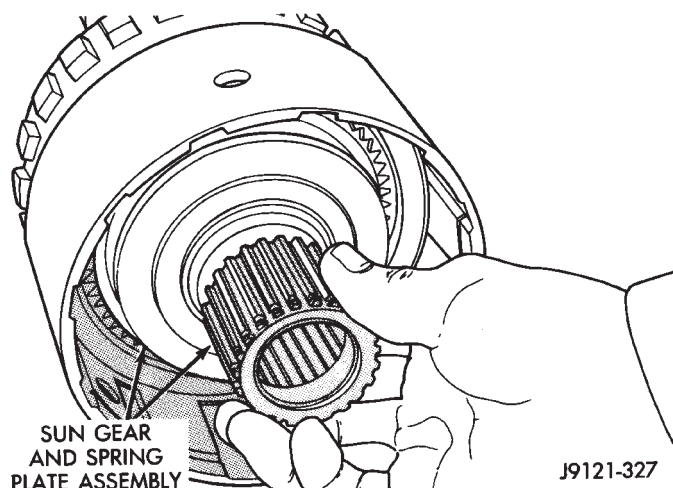

Fig. 336 Sun Gear Installation
(16) Install assembled sun gear, spring plate and thrust bearing (Fig. 336). Be sure sun gear and thrust bearing are fully seated before proceeding.